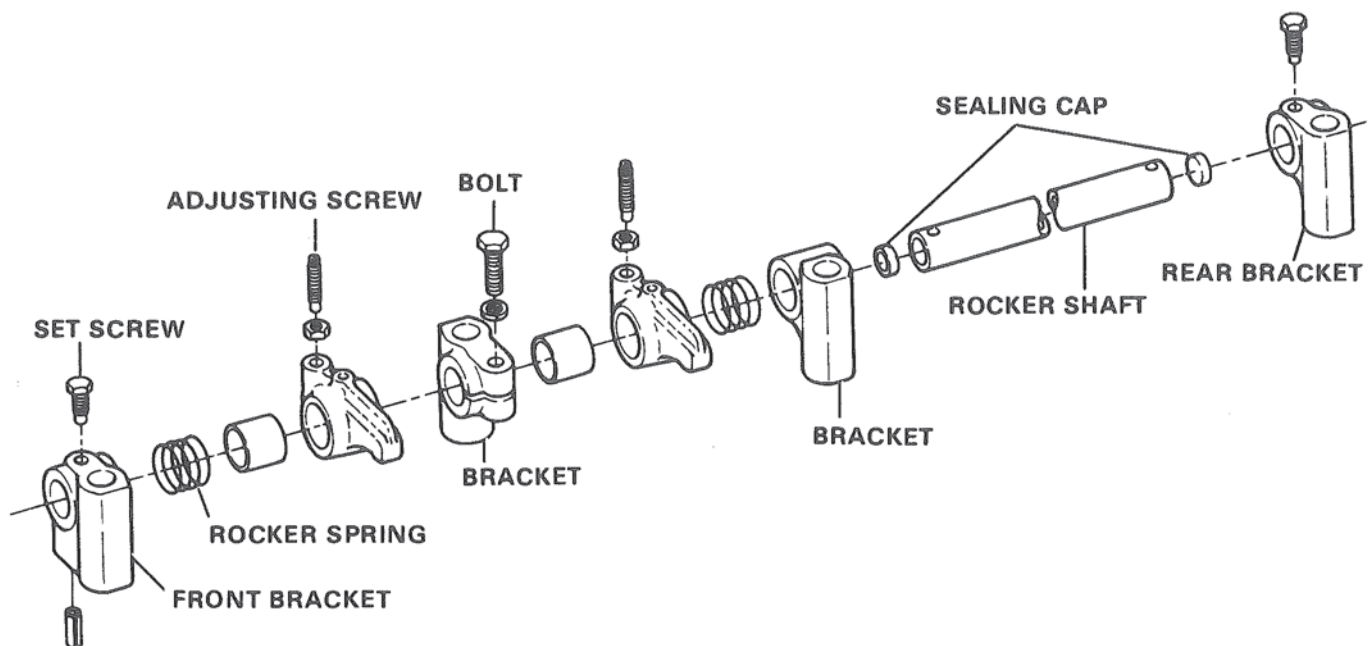

Figure 8. Rocker Assembly.
1. Follow sequence of disassembly. Figure 8.